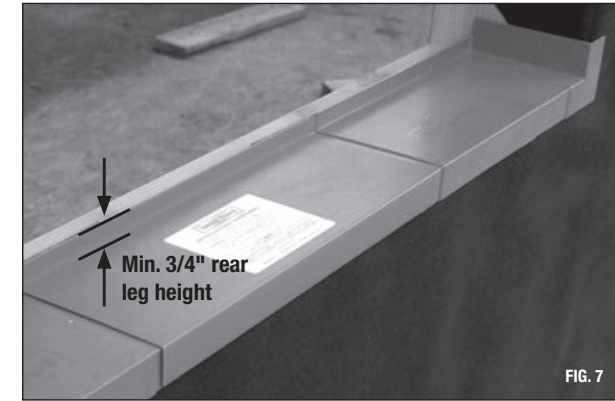

FIG. 7
- Make sill pan to rough opening dimensions and dry fit it in the opening. The rear leg is required to be a minimum of 3/4" high. (Fig. 7)